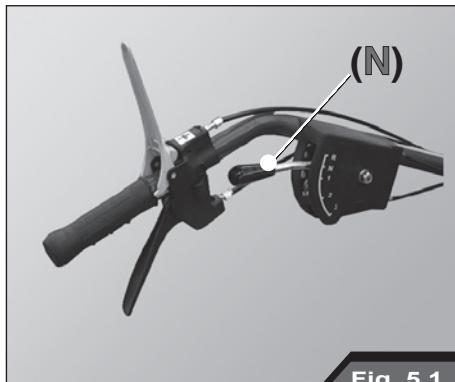

Fig. 5.1
- put the gear Lever in neutral (**N**, Fig. 5.1) for your own safety.
- put the vehicle (2) and blade rotor (6) levers in their vertical position, for your own safety.